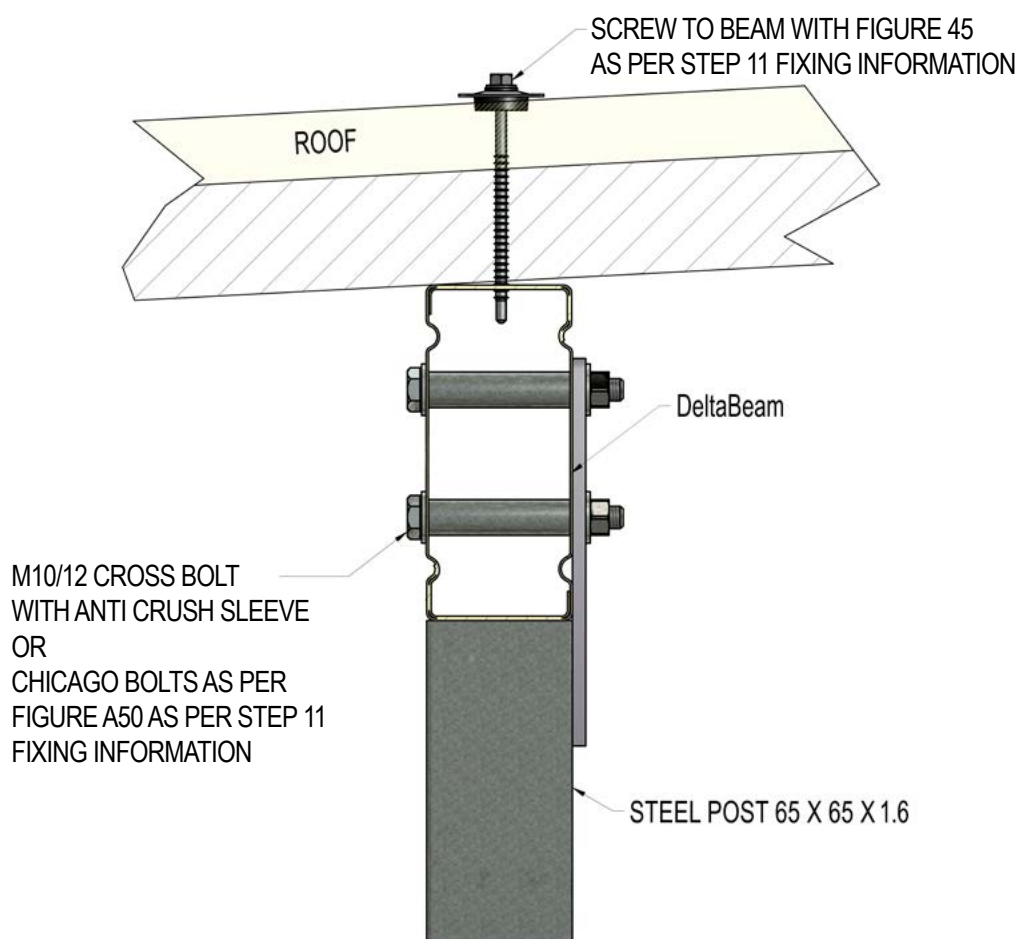

Figure A24
STEP 8**SELECT BEAM TO POST CONNECTION TYPE****Delta™ Steel or Aluminium Beam to Post (see Figure A24)**